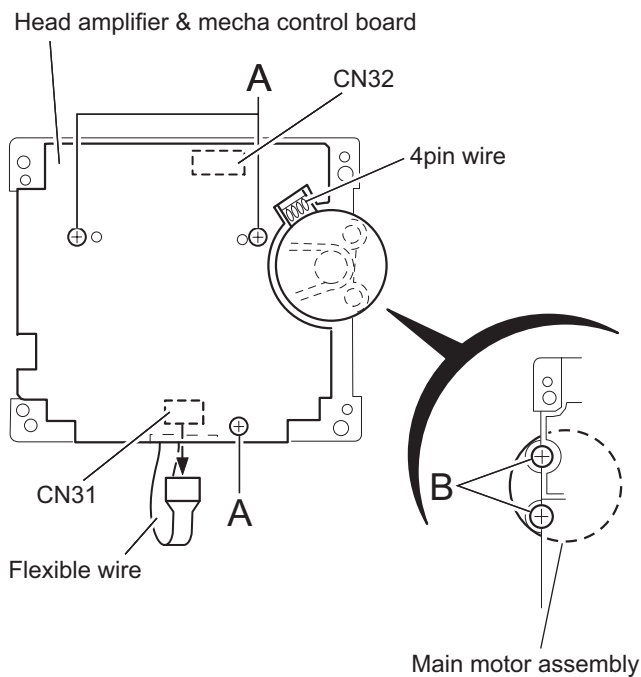

Fig.4
3.5.2 Removing the head amplifier & mechanism control board (See Fig.4)
3.5.3 Removing the main motor (See Fig.4~7)